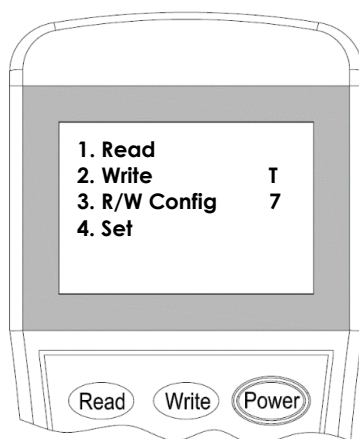

Figure 8
2. Switch-on the programmer, then press button **"3"** to enter to **Configuration mode** (Figure 8).